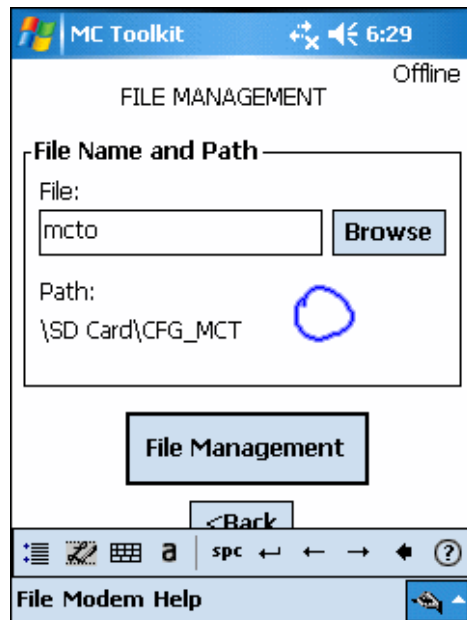

Figure 3-14 Freehand recognition
2. Use the stylus to input the characters by writing them on the screen, in cursive, print or, mixed handwriting. The character input is recognized and displayed on the screen as shown in Figure 3-14.